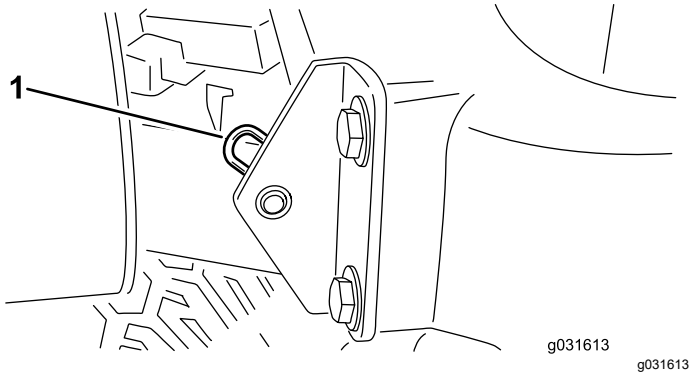

Figure 77
2. Remove the hairpin cotter securing the hood pivot to the mounting brackets (Figure 77).